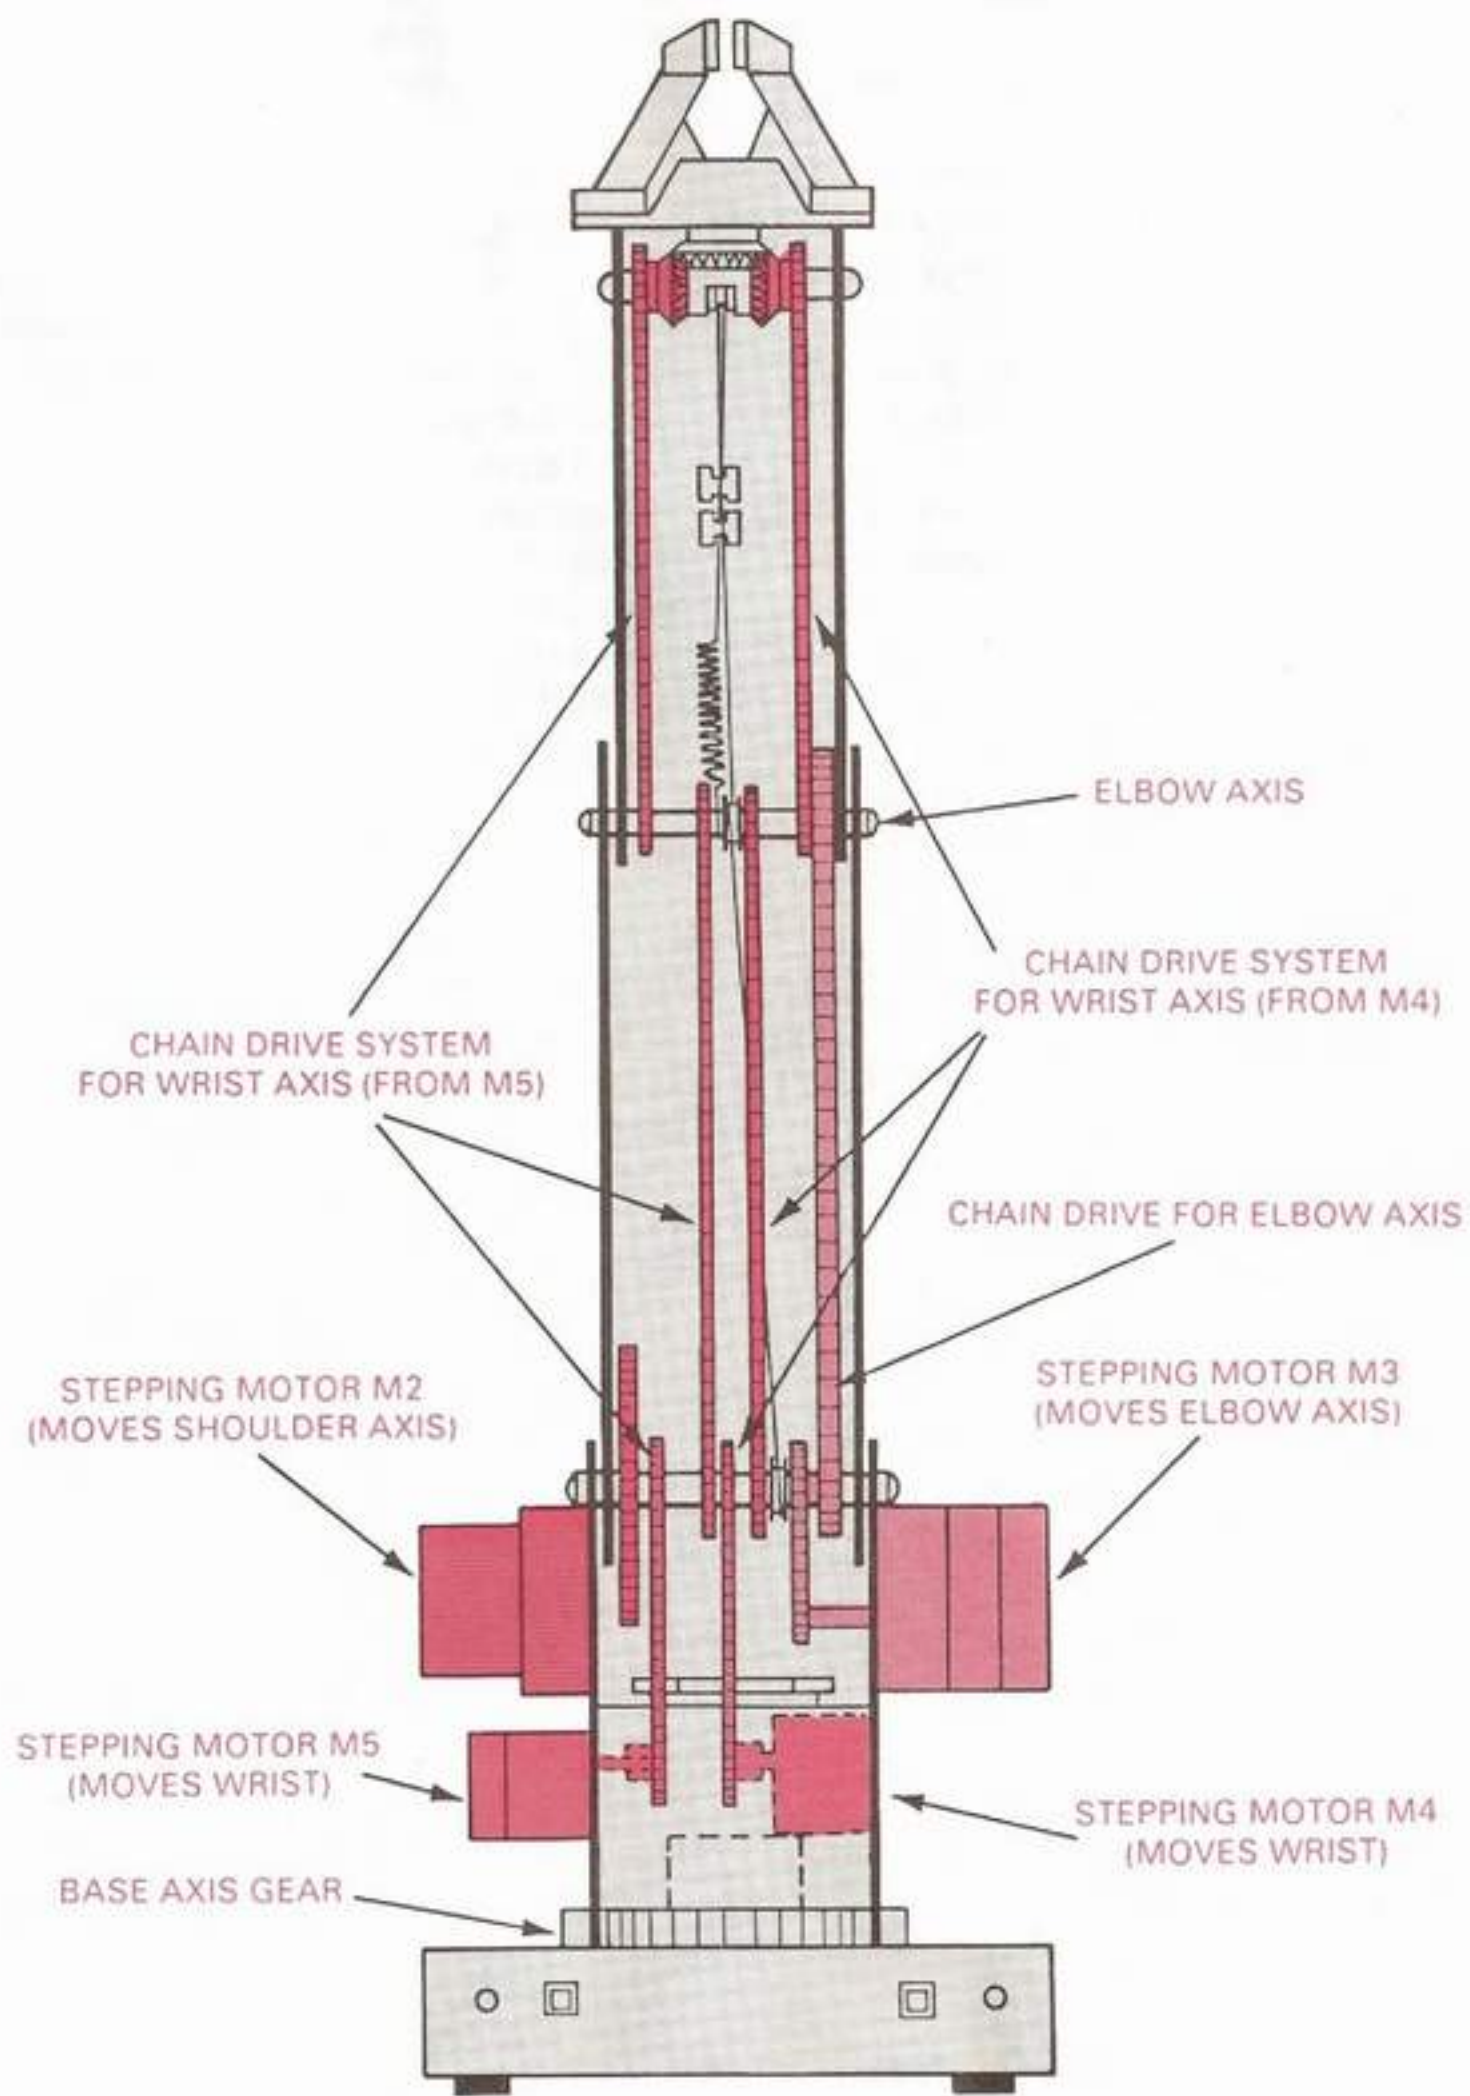

Fig. 18: The Pro-Arm's Motors, Gears, and Linkage
As you proceed through the following steps, refer to Fig. 18 to identify the various motors, gears, and linkage. Be sure to complete the blank boxes in Table 2.
- ___ f. Observe that one of the **BASE** axis gears for **M1** is located on top of the base unit and may be seen from the front of the robot, as illustrated in Fig. 18. A small gear on the end of the motor shaft is driven against this large gear to provide body movement (arm swing). The small gear is well hidden within the body and cannot readily be seen.